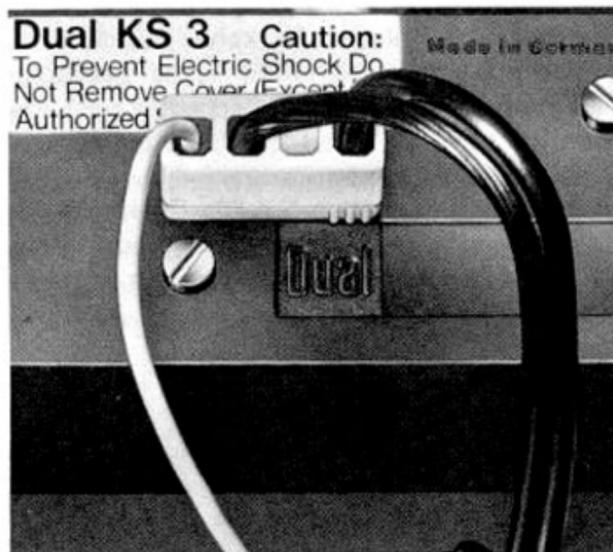

Fig. 3
B. No. 209 458; AMP-No. 42 859/1 (Fig. 3) for 4-pole power supply plug